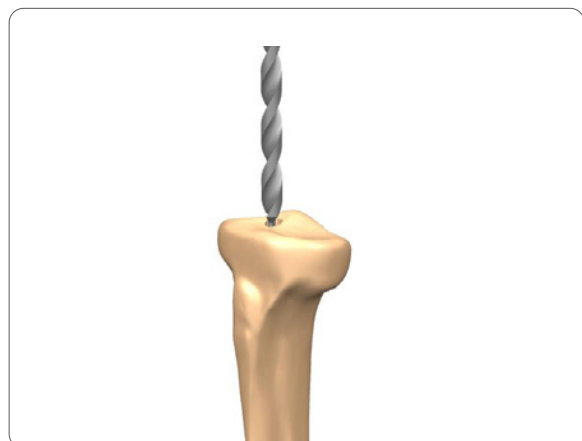

Figure 105
1. Open the tibial canal with the 9.5mm Intramedullary Drill. The drill has a 12mm step to open the entry point further (**Figure 105**). A preliminary resection of the tibial spine may facilitate seating of the tibial drill guide onto the proximal tibia.